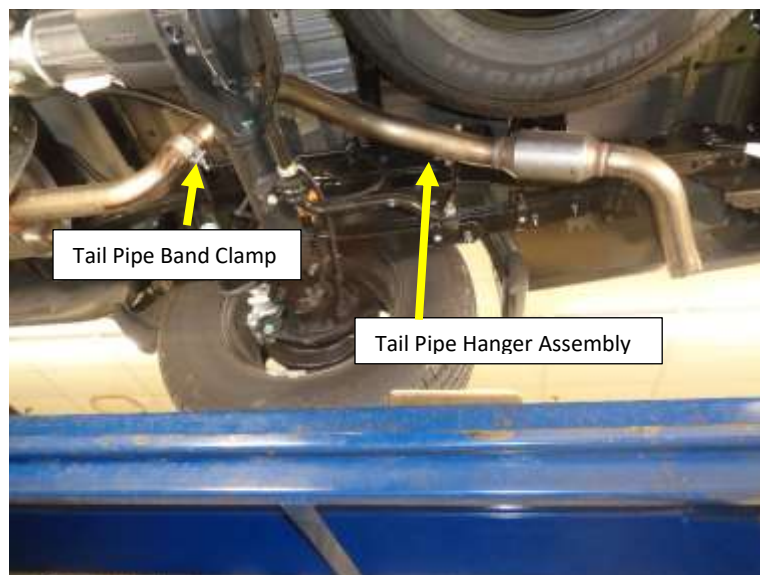

Figure.1
3. Remove the (X3) M8 bolts from the tail pipe hanger assembly bolted to the frame just over the axle . **Fig.1**
4. Remove the rubber tail pipe hanger and remove the tail pipe. **Fig. 1**